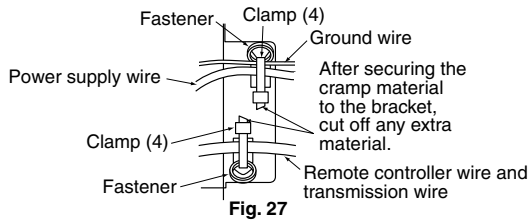

Fig. 27
Holding the control box lid, loosen the 2 securing screws, remove the control box lid, match up the phases on the power supply terminal block inside (2P), and make the connections. After this is done, use the attached clamp (4) to bind wire between units to the anchor point. (Refer to Fig. 27)